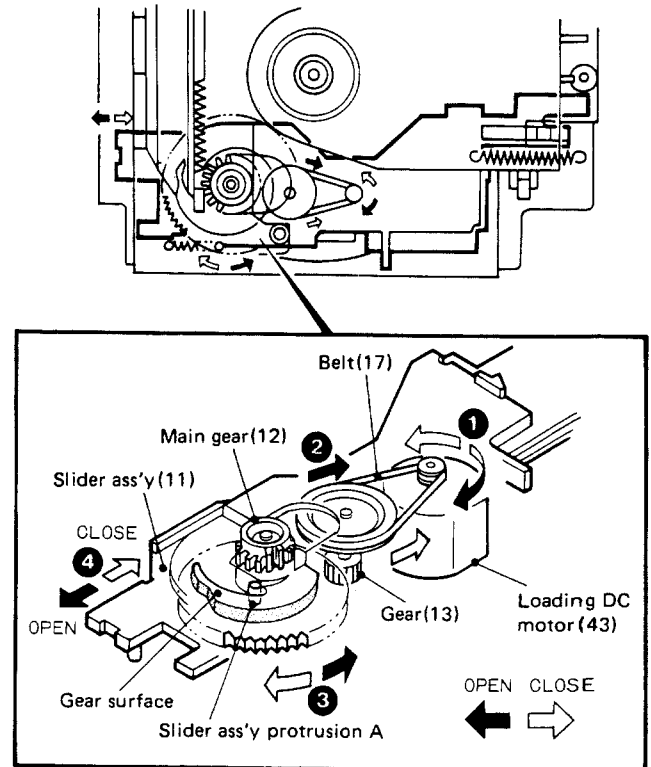
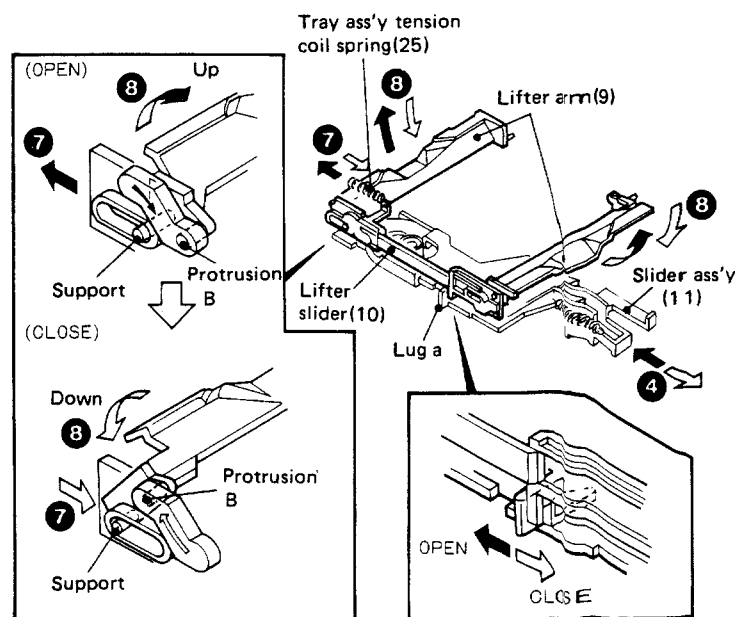

Fig. 2 Loading motor rotation transmission
Fig. 5 Lifter arm up/down operation
As shown in Fig. 2, loading DC motor (43) rotates in the direction of the black arrow ① and transfers the rotation of the black arrow ② to the gear (13) via the belt (17), and also rotates the main gear (12) in the direction of the black arrow ③ with the lower gear section of the gear (13). The main gear (12) contains the cam on its upper surface. Along with the surface of the cam, protrusion A located in the lower side of the slider ass'y (11) is shifted and the slider ass'y (11) begins to move in the direction of the black arrow ④.
Fig. 5 shows the OPEN operation until the disc is lifted from the turntable and placed on the disc tray so that the disc is removed from the player. These operations are performed almost at the same time as the up operations of the clammer arm (8) when the tray is opened as described in Fig. 2 to 4 above.